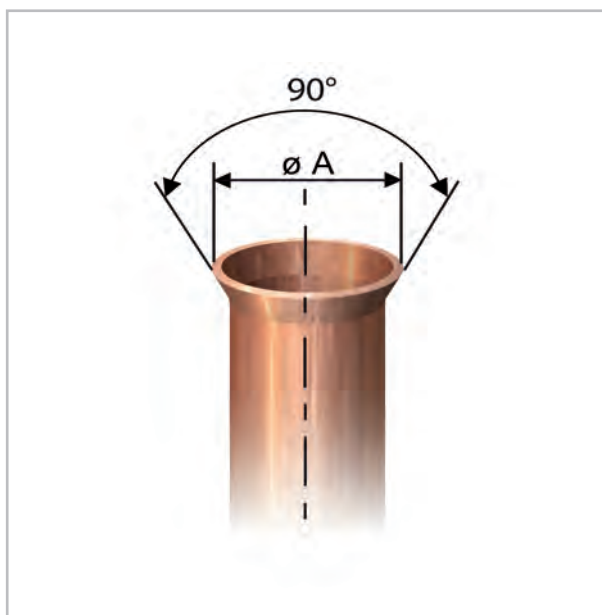

Fig. 35: Correct flange shape
9. ➤ Verify that the shape of the flange is correct (Fig. 35).